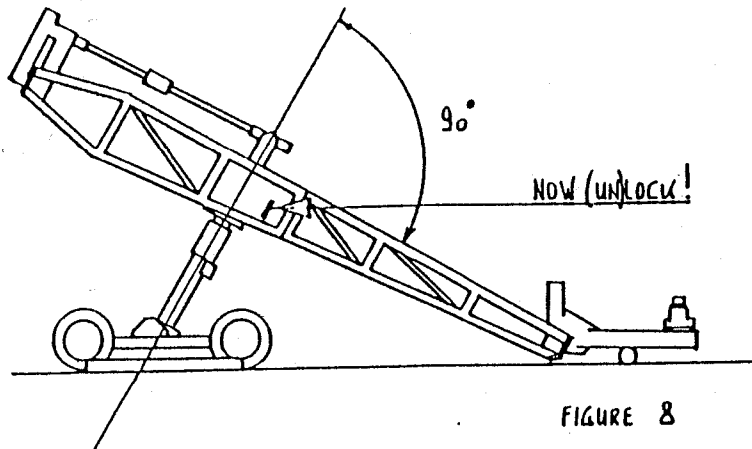

FIGURE 8
- B. The moment you reach the position as shown in figure 8 you unlock the red tilt drag controle and keep continuing the pull/lift movement as described under 5 C. till the dolly column reaches the 90 degree position straight up (see figure 9.)